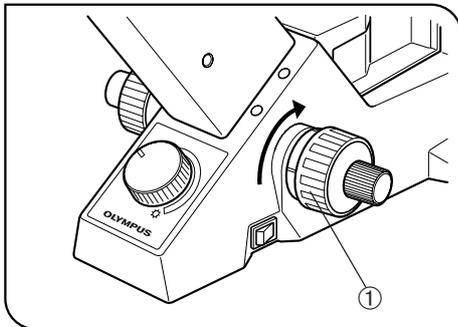

Fig. 28
4 Mounting the Objectives (Figs. 28 & 29)
1. Turn the coarse adjustment knob ① towards the back until the revolving nosepiece is set at its lower limit. (Fig. 28)